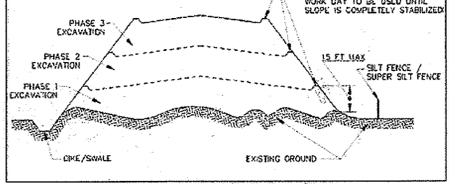

Figure 2: Incremental Stabilization - Fill
4. Construction sequence example (Refer to Figure 2):